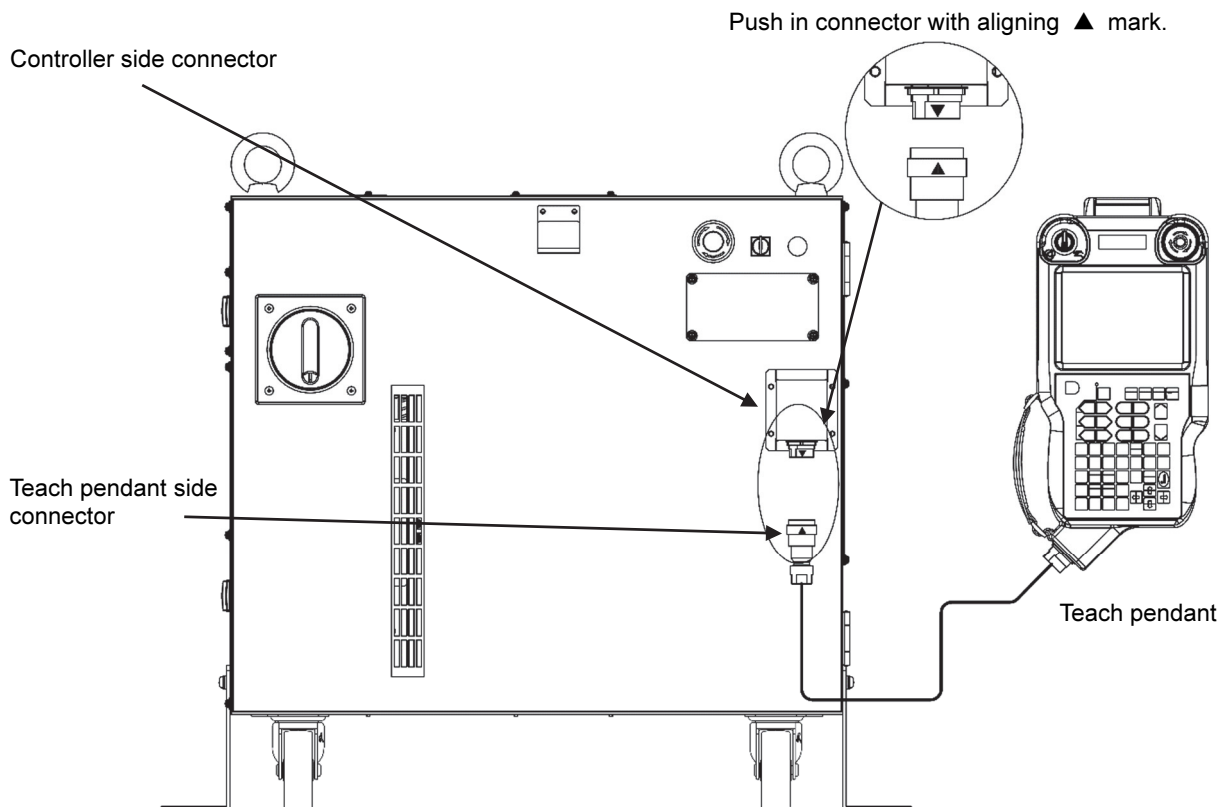

Fig. 3.4.1 Connection of Teach pendant
- 2 As shown in Fig. 3.4.1, connect the connector on the teach pendant side to the connector on the controller body side. Push it in until it is locked.